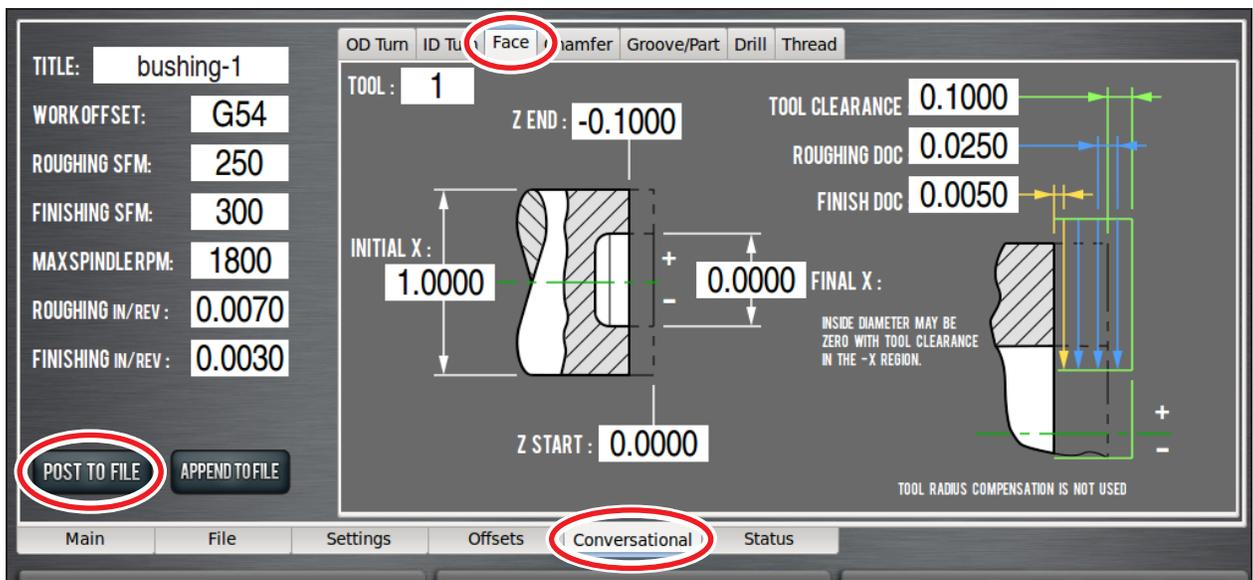

Figure 4.23
2. Click *Face* tab on the *Conversational* screen (see **Figure 4.23**) and enter values shown in **Figure 4.23** to generate code that faces the part back to Z of -0.100”.
3. Click *Post to File* to save G-code (see **Figure 4.23**).